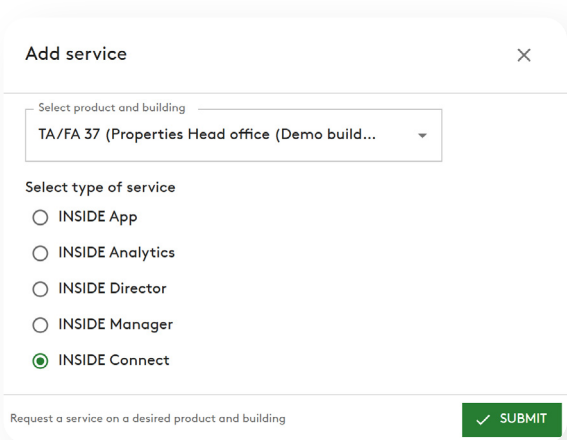

Figure 8. Request INSIDE Connect as service to a product.
2. Select each product that you want to activate INSIDE Connect for. It's possible to submit one product at a time (fig.8).